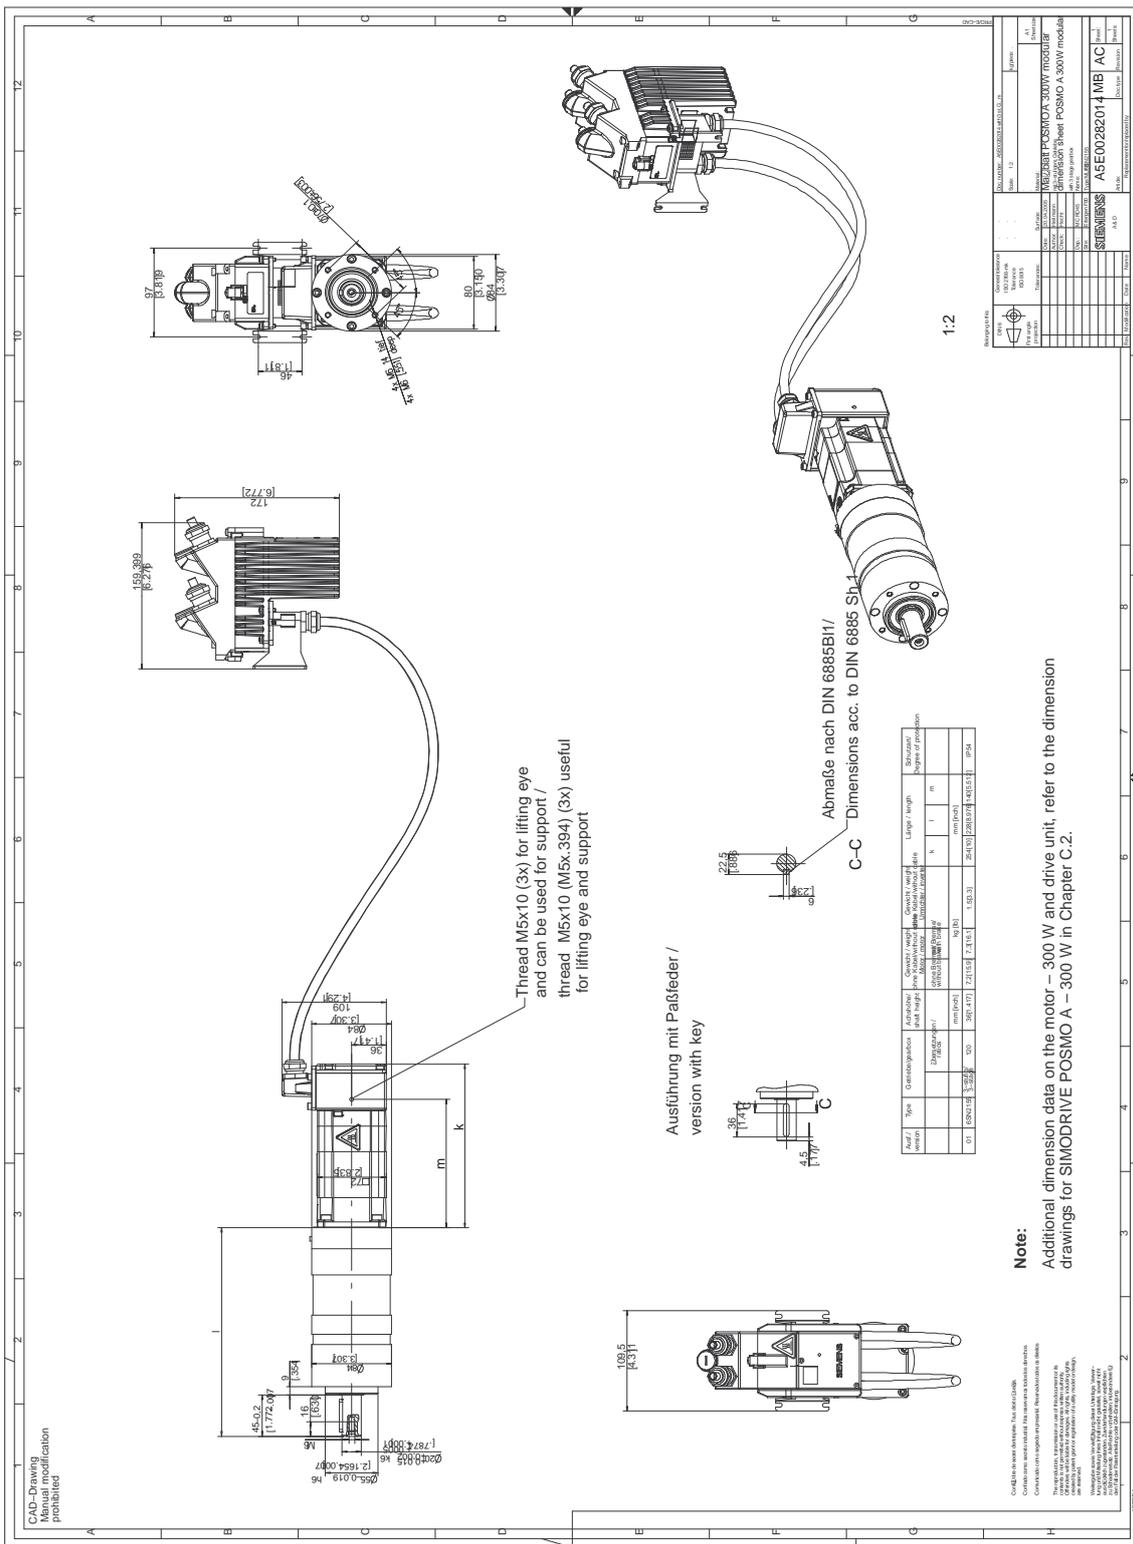

Fig. C-9 Dimension drawing: SIMODRIVE POSMO A – 300 W extension set "separate version" with planetary gearbox (3-stage)
- Motor with planetary gearbox (3–stage) —> refer to Fig. C-9